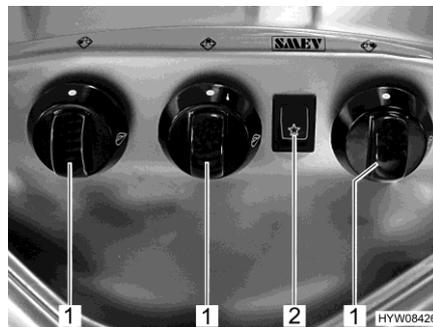

Fig. 119 Operating controls (gas cooker)
- Turn the control knob (Fig. 119,1) on the burner you wish to use to the ignition position (large flame).
- Press rocker switch (Fig. 119,2). Ignition sparks are generated at the burner.